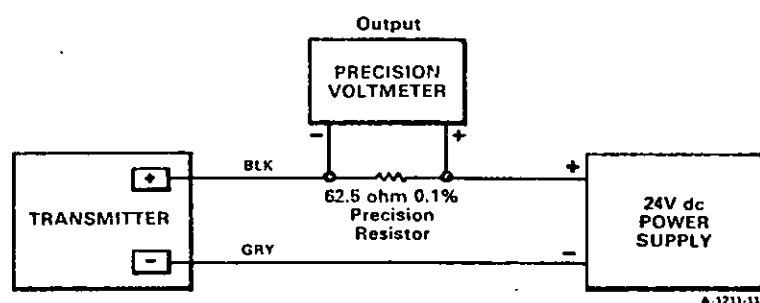

Figure 3. Calibration Circuit
11. Connect calibration circuit, Figure 3.
For example, assume that a transmitter has been calibrated for a span of 100 inches of water (25 kPa) with a lower range value of 50 (12) and an upper range value of 150 inches of water (37 kPa). When the input is 50 inches of water (12 kPa) the output measured across the 62.5 ohm resistor, Figure 3, will be 0.25V dc (4 mA). If the input is lowered by 0.5% of span to 49.5 inches (11.88 kPa), the output will decrease linearly by 0.5% to 0.245V dc. If the input is further lowered to 48.5 inches of water (11.63 kPa), the output response will not be linear; and if the input
The transmitter is part of a two-wire system. Thus, it does not contain an internal power supply. The test equipment required to calibrate the transmitter is shown in Table 1. Calibrate the transmitter using the circuit shown in Figure 3. The voltage drop across the 62.5 ohm precision resistor will be 0.25 to 1.25V dc for a 4 to 20 mA dc output change.
1. Connect output to calibration circuit as shown in Figure 3; and connect input to test hookup as shown in Figure 5.
- Connect output to calibration circuit as shown in Figure 3, and connect input to test hookup as shown in Figure 8.
1. Connect output to calibration circuit as shown in Figure 3; and connect input to test hookup as shown in Figure 8. Arrange input line so that it can be switched from the LO side to the HI side connection. Be sure that both seal elements are
- Connect output to calibration circuit, Figure 3, and connect input to test hookup, Figure 8. Arrange input line so that it can be switched from LO side to HI side connection.